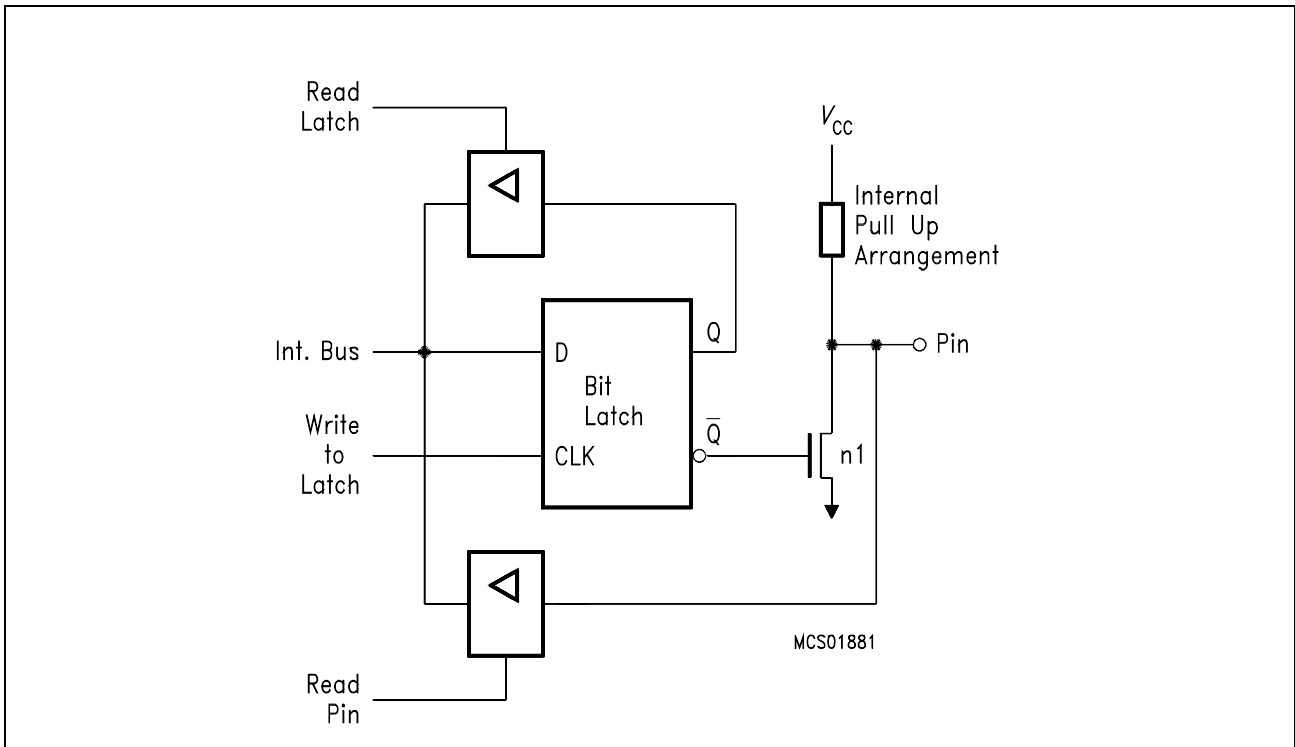
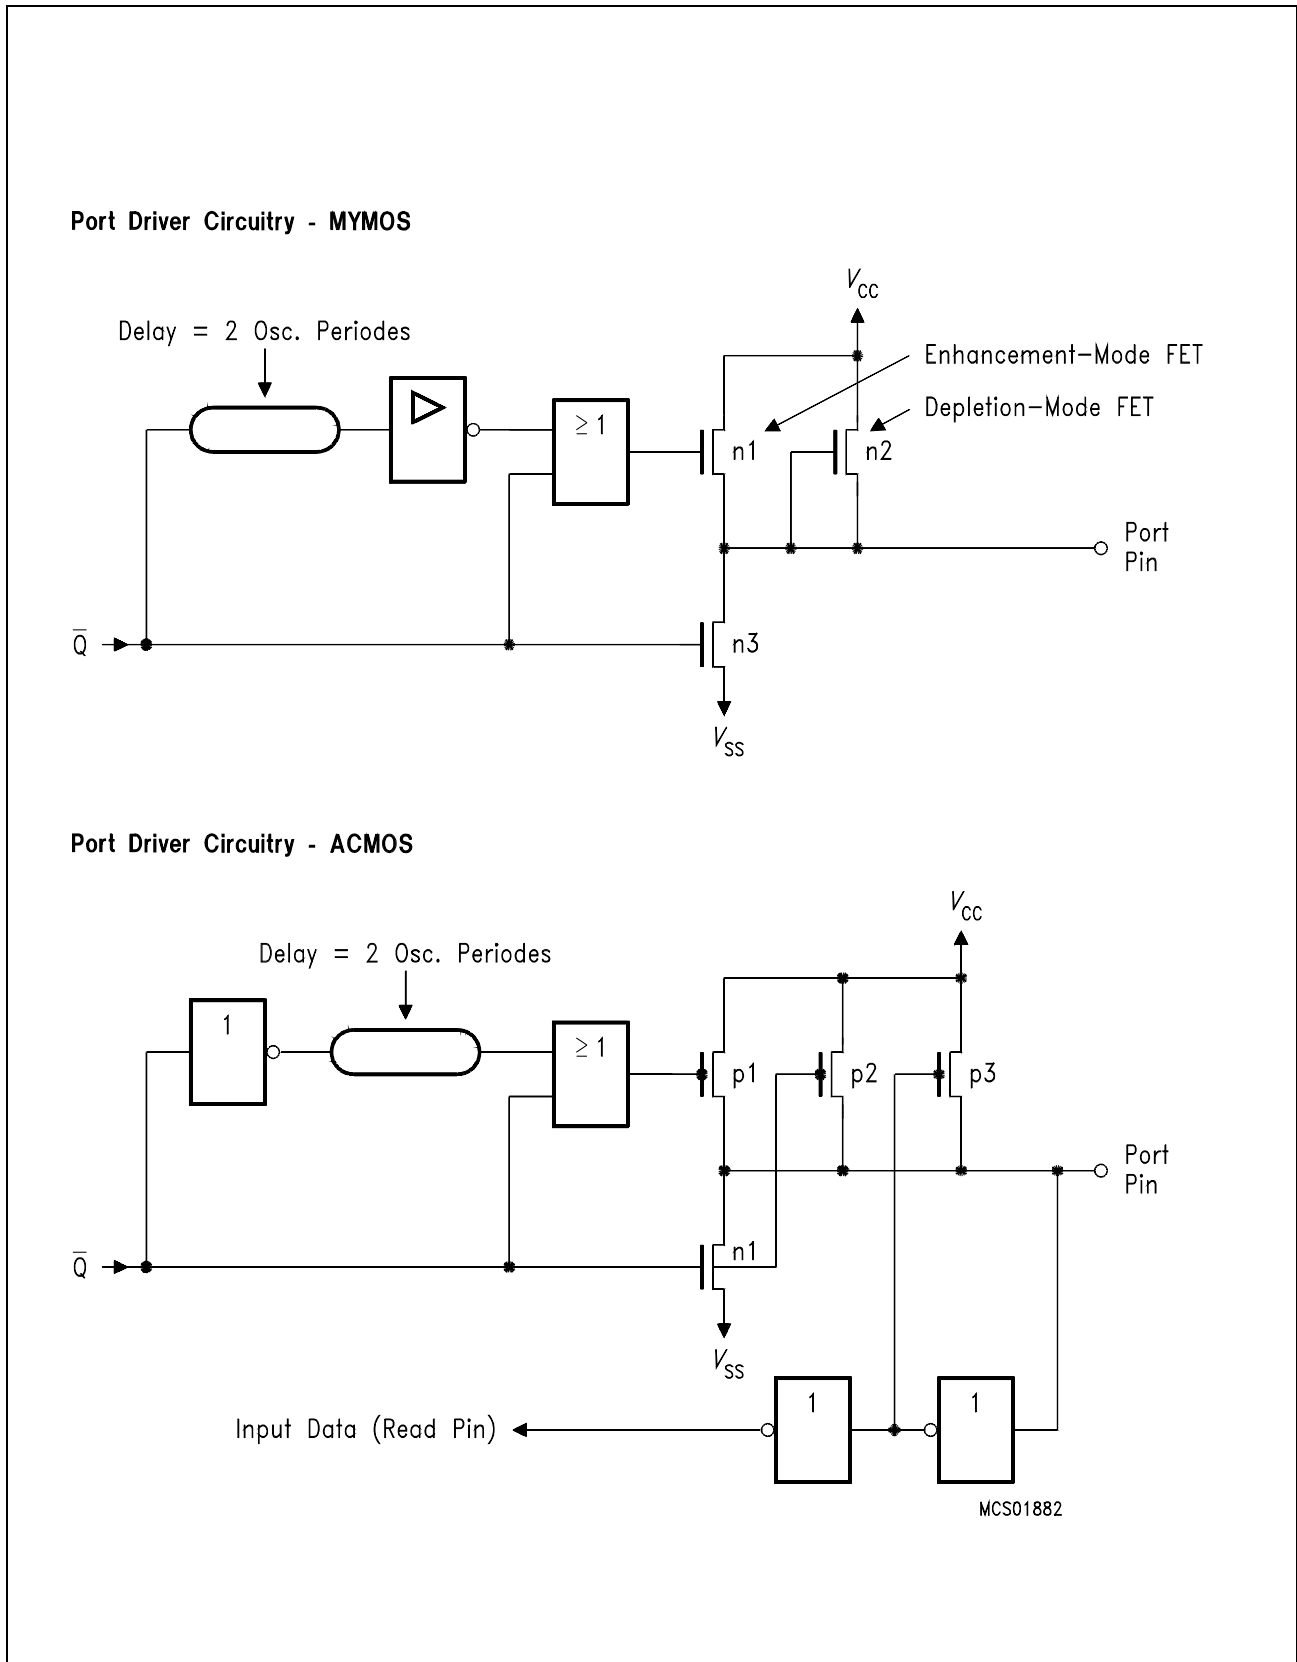

Figure 7-2
Figure 7-3
Port 1 through 5 output drivers have internal pullup FET's (see figure 7-2). Each I/O line can be used independently as an input or output. To be used as an input, the port bit must contain a one (1) (that means for figure 7-2: $\bar{Q} = 0$), which turns off the output driver FET n1. Then, for ports 1 through 5, the pin is pulled high by the internal pullups, but can be pulled low by an external source. When externally pulled low the port pins source current (I_{IL} or I_{TL}). For this reason these ports are sometimes called "quasi-bidirectional".
In fact, the pullups mentioned before and included in figure 7-2 are pullup arrangements as shown in figure 7-3. These pullup arrangements are realized differently in the MYMOS and ACMOS versions. In the next two sections both versions are discussed separately.
The output driver circuitry of the MYMOS version (**figure 7-3**) consists of two pullup FETs (pullup arrangements) and one pulldown FET:
The output driver circuitry of the ACMOS version (**figure 7-3**) is realized by three pullup FETs (pullup arrangement) and one pulldown FET: